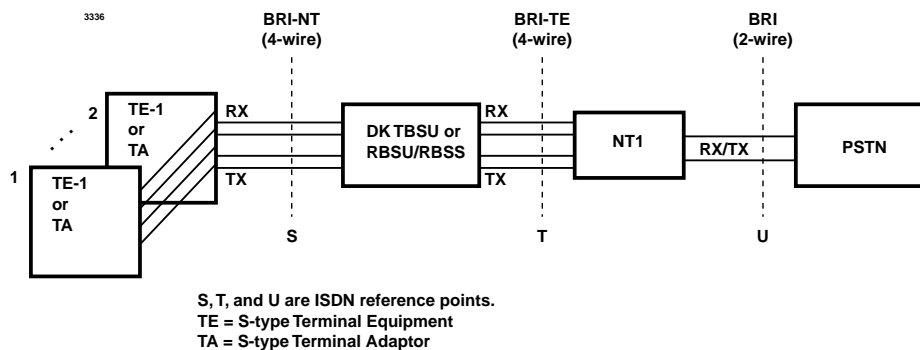

Figure 14-12 TBSU and RBSU/RBSS Interfaces between the S/T Reference Points
The TBSU and RBSU circuits are four-wire S/T type circuits and connect to the Public Switched Telephone Network (PSTN) BRI lines using an Network Terminator unit (NT1); or, on the station side, they can connect to ISDN Terminal Equipment (TE) or Terminal Adapters (TA) as shown in Figure 14-12.